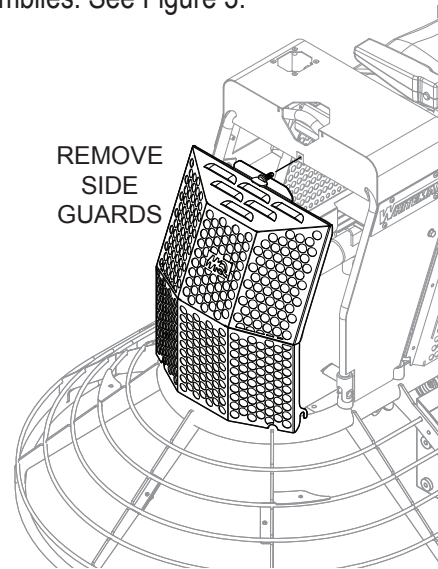

Figure 3. Remove Side Guards
1. Remove side guards from left and right seat frame assemblies. See Figure 3.